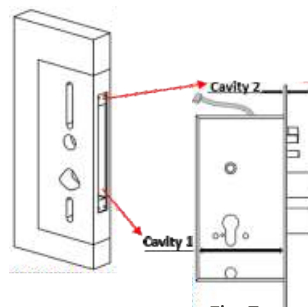

Fig. 7
- Set the depth of first cavity on fixture by measuring the mortise body. Ref Fig. 7.
- Set the depth of second cavity on fixture by measuring the mortise body plate thickness. Ref Fig. 7.